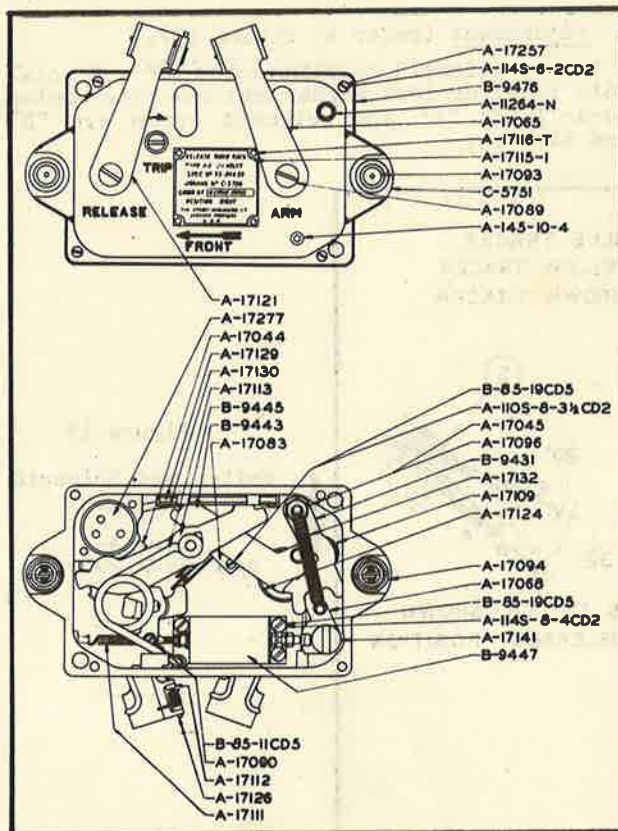

Figure 13 - Detailed Assembly Drawing - Left-Hand
e. Assemble manual trip stud and the associated parts, contact lever A-17062 and arming lever latch B-9430 in order shown in figure 13. It will be necessary to rivet over the end of trip stud.